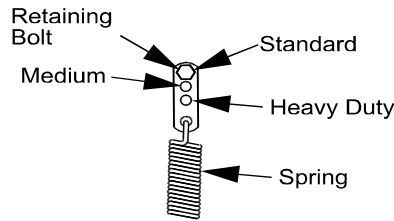

FIGURE 22
- b) For a heavier drive setting, relocate the spring anchor links to either the "medium" or "heavy duty" positions as shown in Figure 22. The spring anchor links are attached to the upper rear corner of the hydro drive shields on the left and right hand sides of the machine.